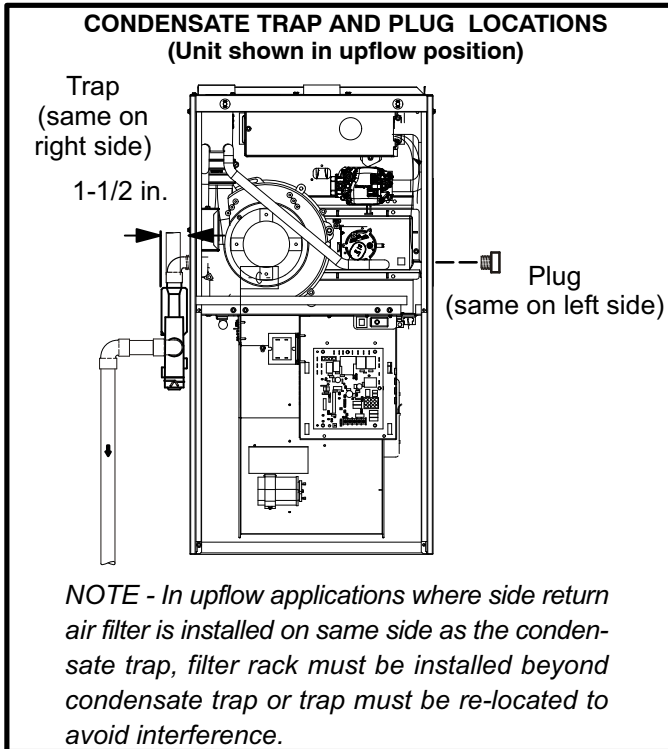
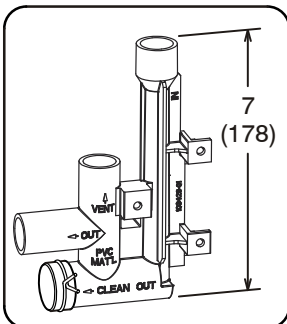

FIGURE 46
FIGURE 54
This unit is designed for either right- or left-side exit of condensate piping in upflow applications. In horizontal applications, the condensate trap must extend below the unit. An 8" service clearance is required for the condensate trap. Refer to figures 46 and 48 for condensate trap locations. Figure 54 shows trap assembly.
- 2 - For furnaces with a 1/2" drain connection use a 3/8 allen wrench and remove plug (figure 46) from the cold end header box at the appropriate location on the side of the unit. Install field-provided 1/2 NPT male fitting into cold end header box. For furnaces with a 3/4" drain connection use a large flat head screw driver or a 1/2" drive socket extension and remove plug. Install provided 3/4 NPT street elbow fitting into cold end header box. Use Teflon tape or appropriate pipe dope.
- 3 - Install the cap over the clean out opening at the base of the trap. Secure with clamp. See figure 54 or NO TAG.
- 4 - Install drain trap using appropriate PVC fittings, glue all joints. Glue the provided drain trap as shown in figure 54. Route the condensate line to an open drain. Condensate line must maintain a 1/4" downward slope from the furnace to the drain.